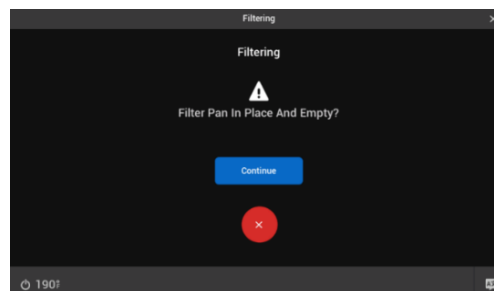

Figure 99 - Filter Pan in Place and Empty?
- If the pan is ready, press the  button and continue **Figure 99**